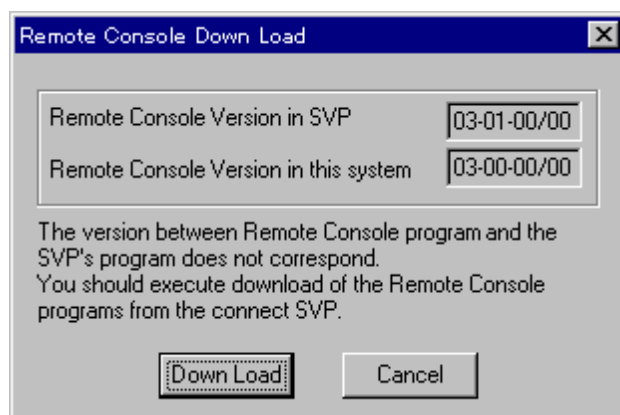
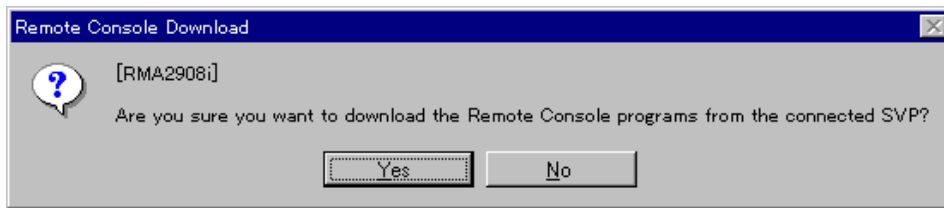

Figure 3.15 Remote Console Down Load Panel
Figure 3.16 Download Confirmation Panel
3. Select the **Ver Check** button to determine if a higher version of remote console software is present in the SVP of the selected 9900. If a higher version is present, the Remote Console Down Load panel opens (see Figure 3.15).
1. On the Remote Console Down Load panel (see Figure 3.15), select **Down Load**. The Download Confirmation panel (see Figure 3.16) appears.